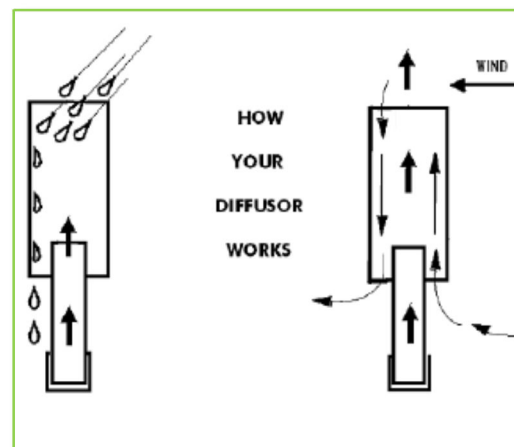

Figure 11. The diffuser helps improve updraft of odor from the vent. Image courtesy of Sun-Mar.
2. Glue the smaller end of the diffuser, vertically, to the top of the vent pipe as shown in Figure 11. The larger end of the diffuser sits at the very top and helps deflect rain and wind from entering the vent stack. The diffuser works best in calm weather and does not freeze in the winter.